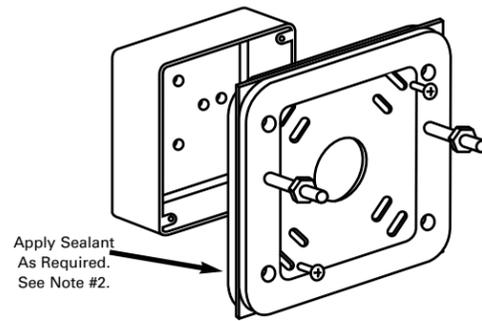

Fig. 2
2. Using the two (2) screws supplied with the junction box, install the mounting plate as shown. The 5/16-18 studs should be facing away from the wall and above the center of the bracket (See Fig. 2). For rough or uneven surfaces, sealant must be applied (by others) between the rear mounting plate gasket and the mounting surface (wall).